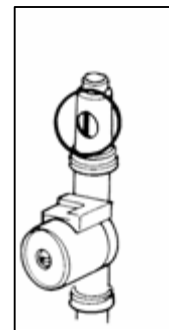

Figure 9
**Attention:** when locking pump couplings which are supplied with the boiler, the adjusting grooves must point towards the pump (see figure 9)